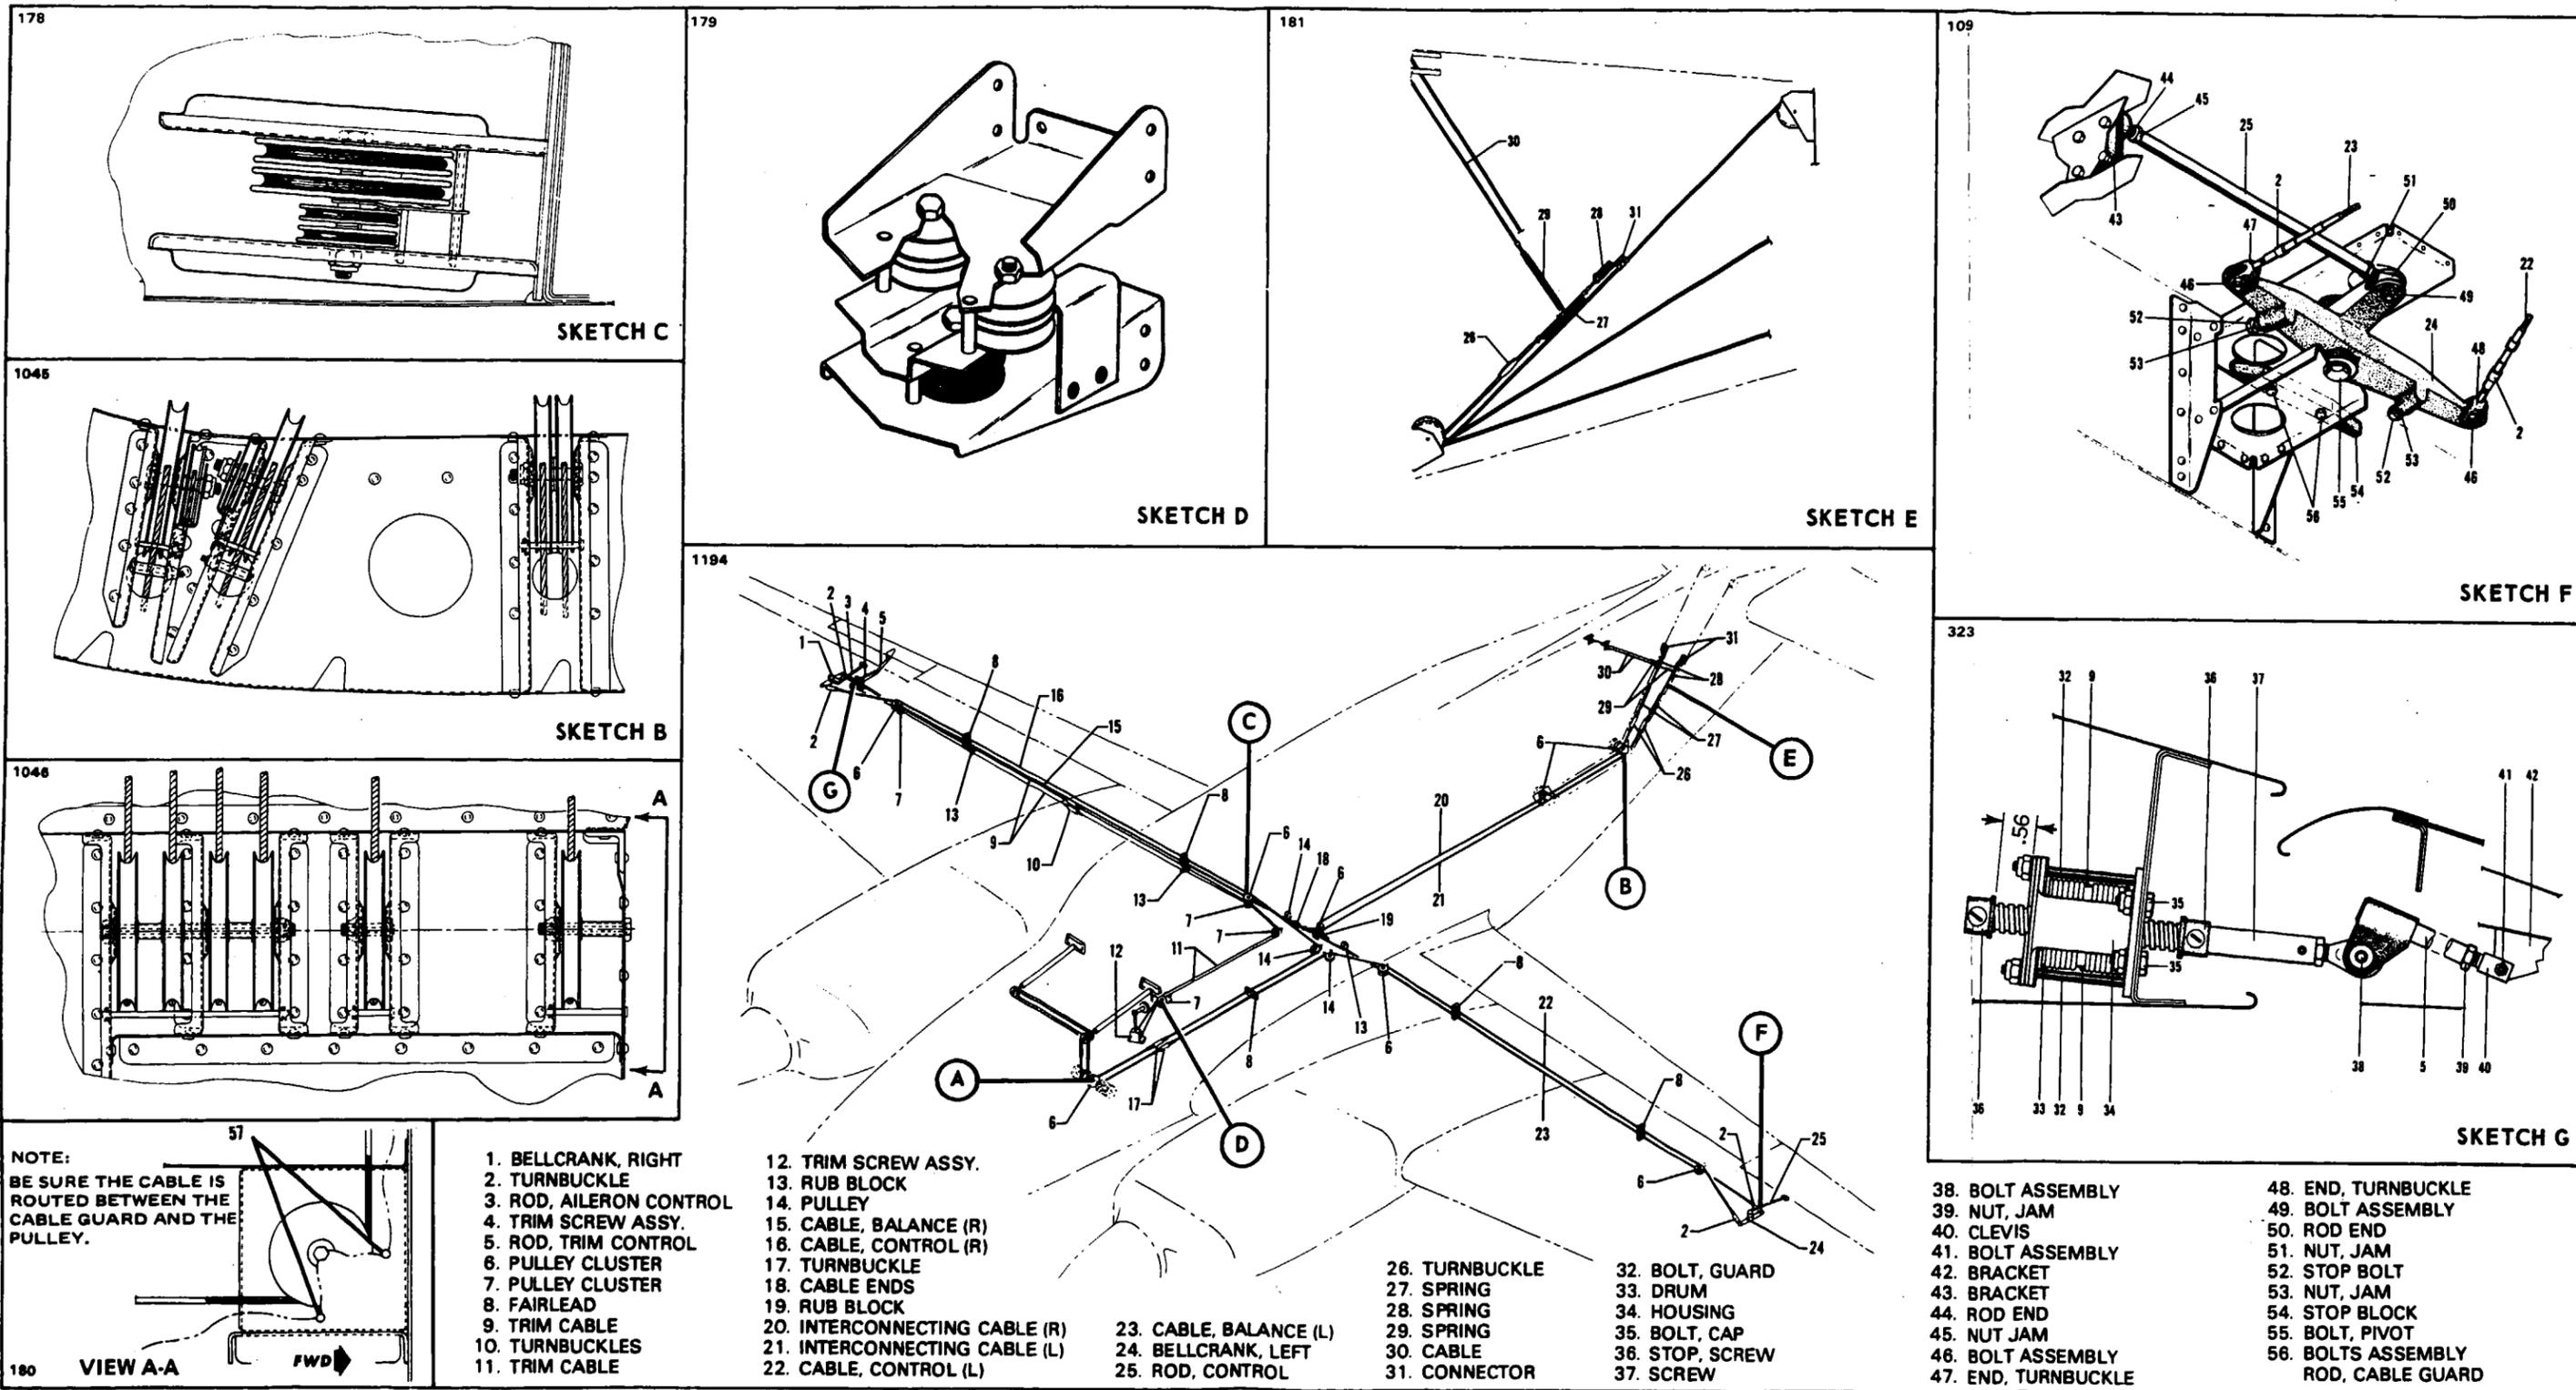
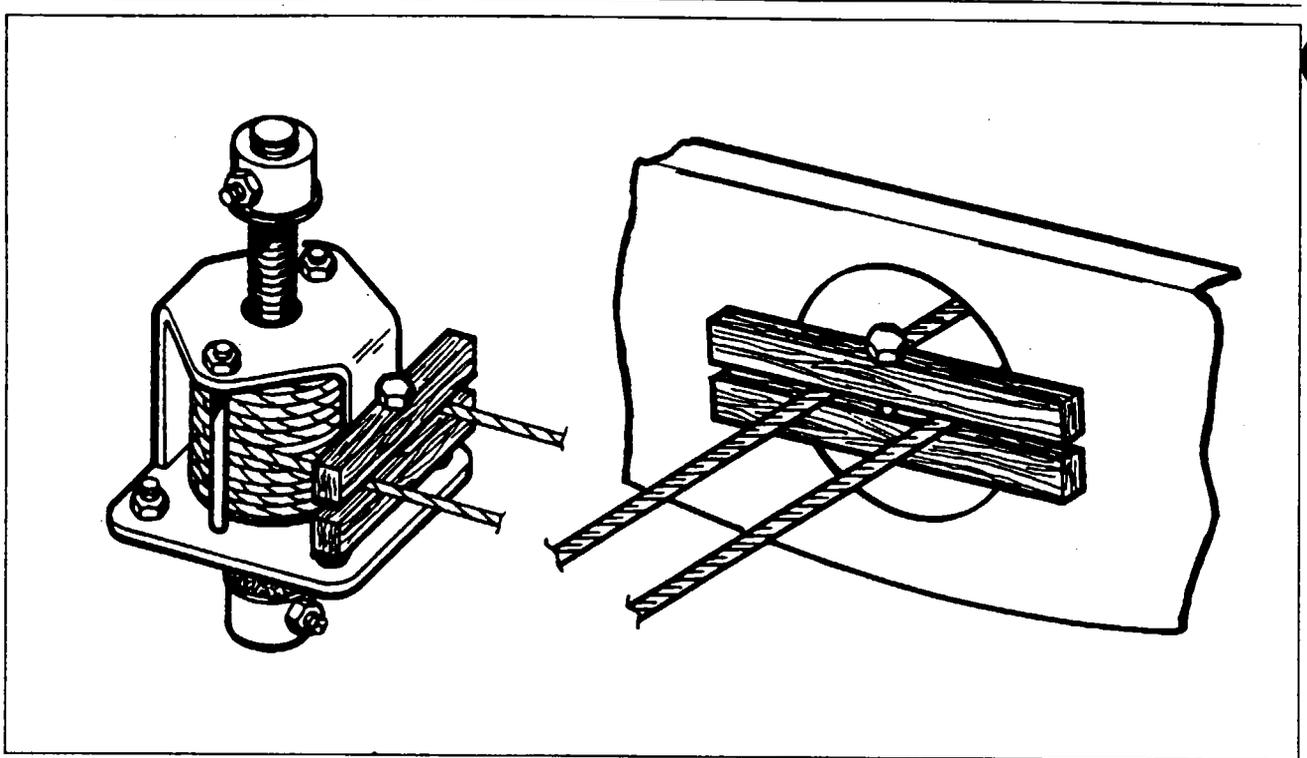

Figure 5-2. Aileron and Aileron Trim Controls
Figure 5-8. Methods of Blocking Trim Cables
5-9. REMOVAL OF AILERON CONTROL CABLES. (Refer to Figure 5-2.)
5-10. INSTALLATION OF AILERON CONTROL CABLES. (Refer to Figure 5-2.)
5-11. RIGGING AND ADJUSTMENT OF AILERON CONTROLS. (Refer to Figure 5-2.)
5-12. REMOVAL OF AILERON BELLCRANK ASSEMBLY. (Refer to Figure 5-2.)
5-13. INSTALLATION OF AILERON BELLCRANK ASSEMBLY. (Refer to Figure 5-2.)
5-15. REMOVAL OF AILERON TRIM ASSEMBLY (Fuselage). (Refer to Figure 5-2.)
5-16. INSTALLATION OF AILERON TRIM ASSEMBLY (Fuselage). (Refer to Figure 5-2.)
- g. If the trim cables (9) from the screw assembly (4) within the wing are installed, connect the cable ends at the turnbuckles (10) at wing station 90. (If the trim assembly within the wing is not installed, pull the cables tight and block them, reaching through the access opening in the wing at station 92.50.
- l. Set cable tension with the turnbuckles (10) in the wing at station 90 per Table V-I and check rigging and adjustment per paragraph 5-19.
- 5-17. REMOVAL OF AILERON TRIM ASSEMBLY (Wing). (Refer to Figure 5-2.)
- b. Disconnect the trim control rod (5) located between the trim screw (44) and tab, at the screw.
- c. Block the trim cables to prevent them from unwrapping from their drums at the screw assembly and within the wing at station 87.50 by one of the methods shown in Figure 5-8.
- d. Mark one set of cable ends at station 90 to facilitate installation and disconnect the cables at the turnbuckles (10).
- g. Remove the bolts (42) that secure the screw assembly to the rear spar and remove the assembly from the wing.
- 5-18. INSTALLATION OF AILERON TRIM ASSEMBLY (Wing). (Refer to Figure 5-2.)
- b. Position the screw assembly in the wing, install the attachment bolts (42) and torque.
- c. Draw the cables through the wing and connect them at the turnbuckles (10) at station 90. (If the cables from the fuselage are not installed, block the cables at the rib at station 87.50 by reaching through the access opening at station 92.50.)
- e. Connect the control rod (5) to the trim screw (44).
- h. If the complete cable system is installed, set cable tension with the turnbuckles (10) at station 90 per Table V-I and check rigging and adjustment per paragraph 5-19.
- 5-19. RIGGING AND ADJUSTMENT OF AILERON TRIM. (Refer to Figure 5-2.)
- 1. The trim cables are evenly wrapped (centered) on their drums, both below the control pedestal and in the wing, and both cable turnbuckles (10) are located approximately at wing station 90.
- 2. That the trim drum (40) in the wing is centered between the stops of the trim screw (49).
- c. With the trim screw (44) held from rotating, turn the trim drum (40) until .560 of an inch exists between the forward screw stop and the drum housing (41), as measured along the screw. (Neutral position of the screw is at this measurement.)
- c. Block the forward trim cables (6) at the trim screw assembly below the control pedestal and the aft cables (13) at bulkhead 317.75, to prevent the cables from unwrapping from their drums, by one of the methods shown in Figure 5-8. (If the aft screw assembly (19) is also to be removed, then remove the access plate attached to the underside of the horizontal stabilizer and block the cables at the screw assembly instead of in the fuselage.)
- d. Mark one set of cable ends at station 308 to facilitate installation and disconnect the cables at the turnbuckles (12).
- b. Block the trim cables to prevent them from unwrapping at the screw assembly within the horizontal stabilizer and within the fuselage at bulkhead station 274 by one of the methods shown in Figure 5-8. (If the forward trim assembly is also being removed, block the cables at the forward trim screw below the pedestal.)
- c. Mark one set of cable ends within the fuselage at station 308 to facilitate installation and disconnect the cables at turnbuckles (12).
- d. Disconnect the trim tube assembly (44) from the trim screw assembly by removing the two attachment bolts.